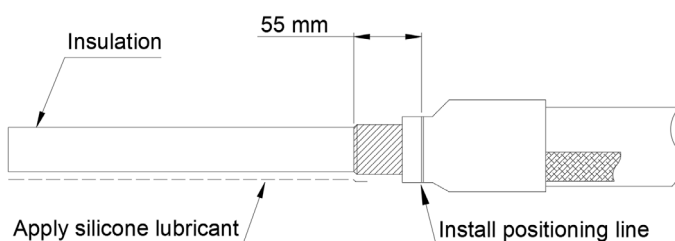

Fig.8
- Measure down 55mm from the top of the semi-conductive shield. Mark this position. (Fig.8)